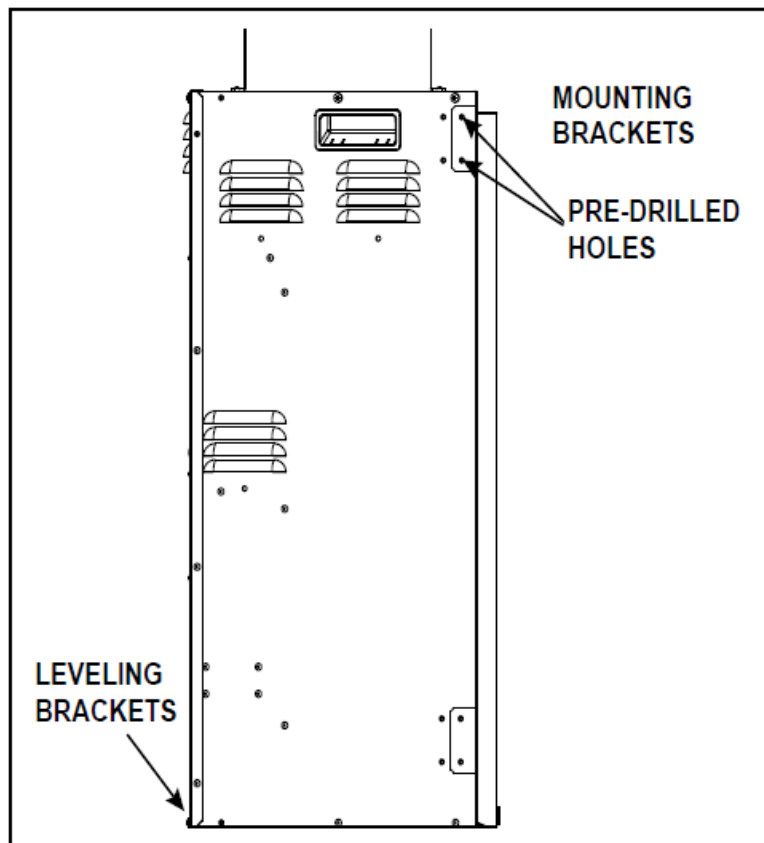

Figure 4.2 Pre-drilled Hole Locations
Install mounting brackets (4) by aligning them with the pre-drilled holes located on the side of the appliance . Use two screws (ST4 x 8) per bracket to secure to the appliance. See Figure 4.2 and 4.3. Installing leveling brackets (2) by aligning them to the preset holes at the base of the appliance. Use two screws (ST4 x 8) per bracket to secure the appliance. See Figure 4.2. Mounting brackets may be installed in the rear or forward positions using the pre-drilled holes. rear position may be desired if fastening directly to the framing. while the forward position allows for attaching over 1/2 in. wall sheathing.